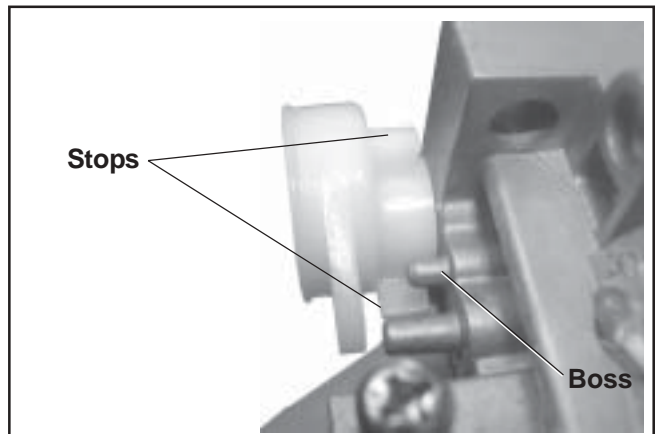

Figure 5-61. Assembling Choke Lever.
7. Insert the new bushing through the new choke lever from the outside, and start the bushing in the outer shaft bore. Position the choke lever so the protruding boss on the carburetor housing is between the two stops formed in the choke lever. See Figure 5-61.